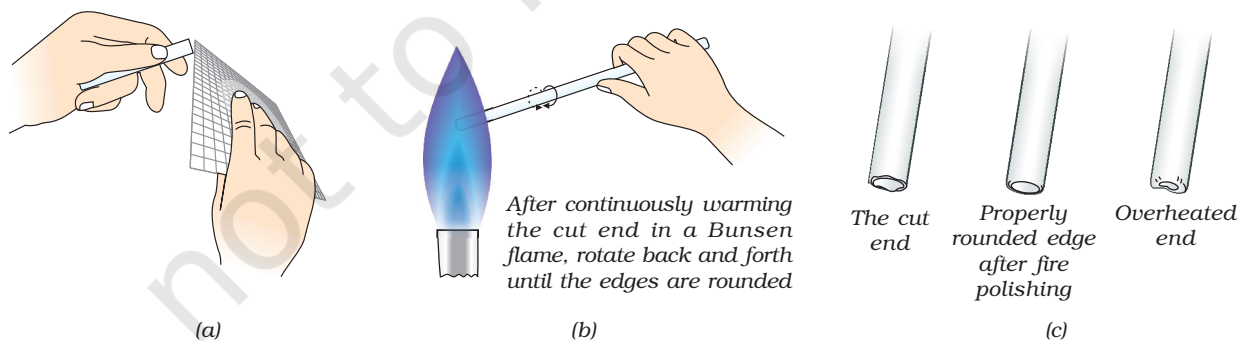

Fig. 2.2 : (a) Trimming the jagged edges
- (v) Trim any jagged edge by striking with a wire gauge (Fig. 2.2 a).
- (vi) Heat the freshly cut edge of the tube gently in the flame to make the edges round and smooth (Fig. 2.2 b). This is called fire polishing. For fire polishing, first continuously warm the cut end in the Bunsen flame and then rotate it back and forth until the edge is rounded. Too much heating may distort the rounded edge (Fig. 2.2 c).